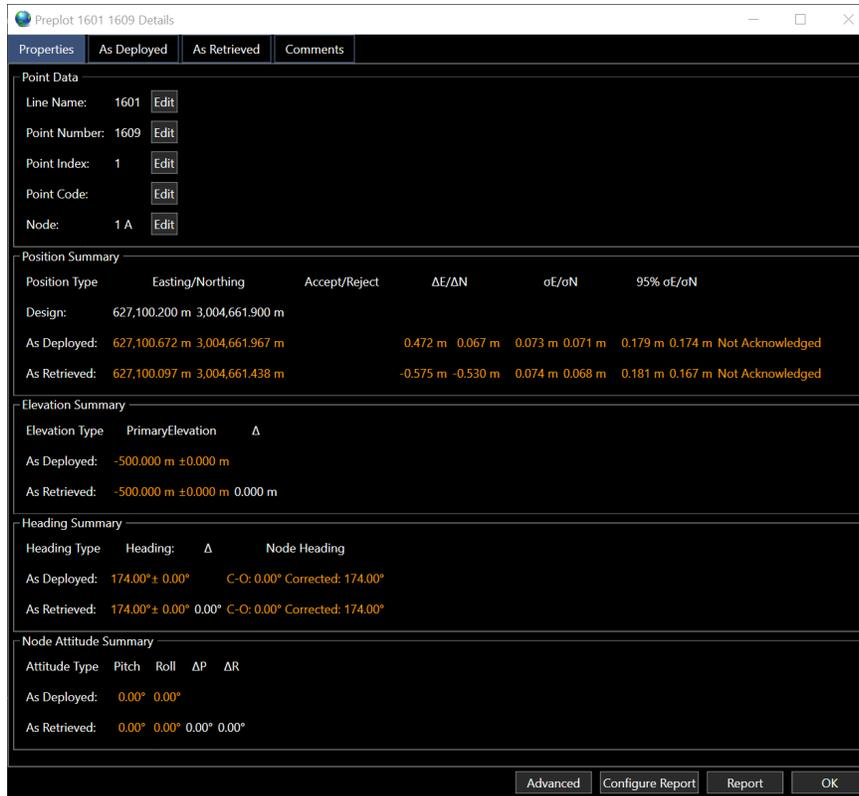

FIGURE 87 PREPLOT DETAILS WINDOW – DEPLOYED/RETRIEVED NODE INFORMATION
- c. If a node has been retrieved from the selected point the Properties tab, see Figure 87, presents the information and a summary of the **As Deployed** and **As Retrieved** position.
1. From the Pre-plot table, select the point, right mouse click and click on **View Details**, see Figure 87.